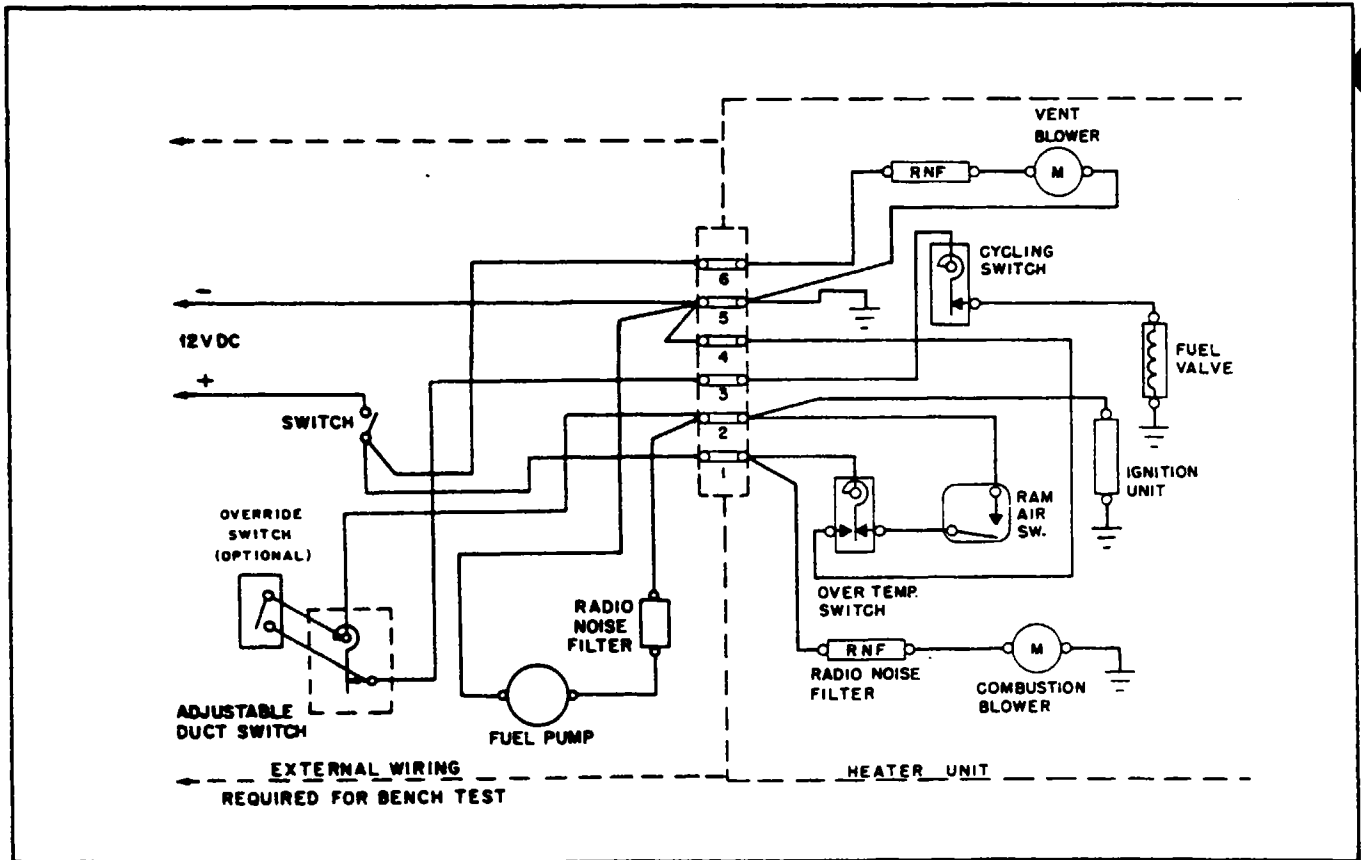

Figure 13-23. Wiring Connections for Heater Operation Test
- c. Connect components and heater as outlined in the wiring connection diagram, Figure 13-23. The power supply switch should be open.